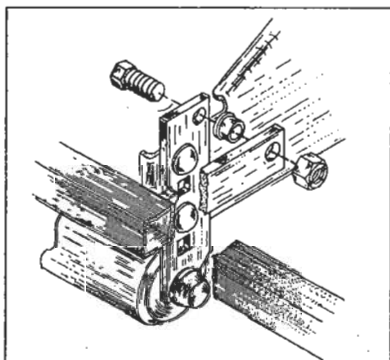

FIG. 2
- B) Remove one mowing head from the box and position between the brackets and push into place, aligning the hole in the attachment bracket with the top hole of the roller brackets on mowing head **FIG. 2**